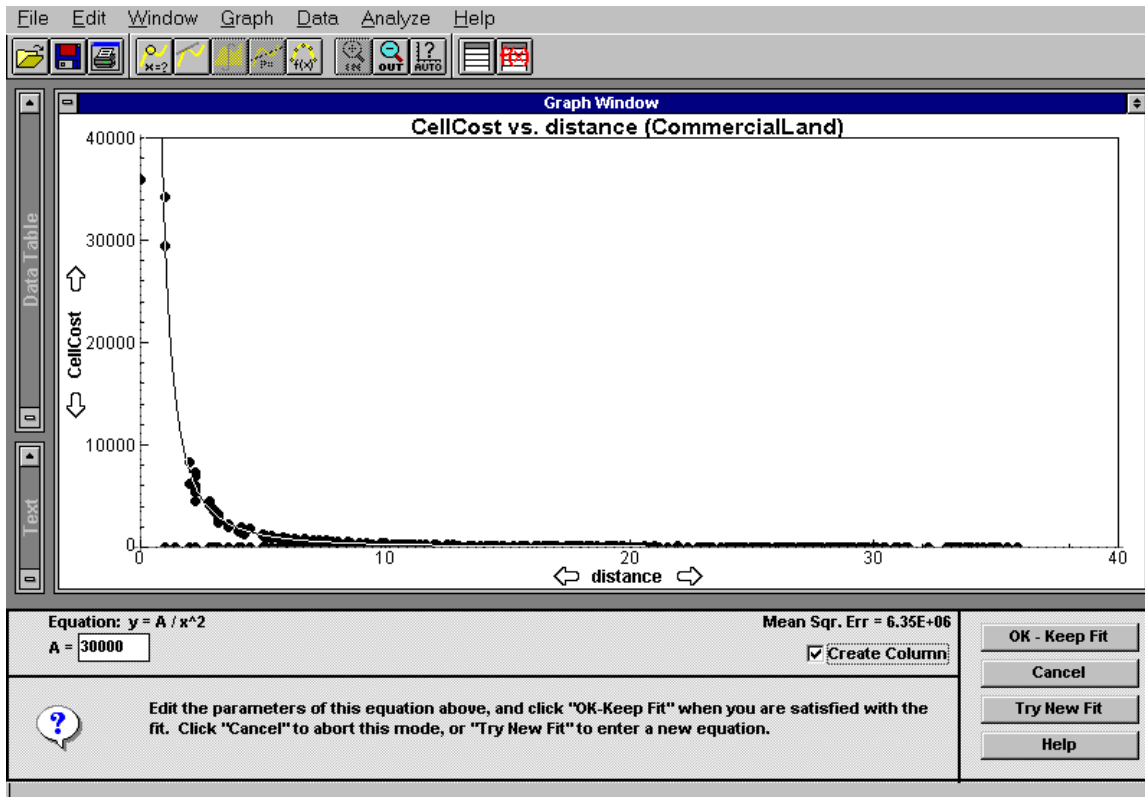

Figure 10: Choosing the Best Fit as 30,000/Distance Squared
- Use Analyze/Curve Fit to find the best formula for these cells. Just as you did in part b, you should vary the formula (e.g. with squares, cubes, and higher powers in the denominator) until your line is as close to the points as possible as suggested in Figure 10. Once you have your best fit, check the box that reads “O.K. - Keep Fit” and also check the box that says “Create Column”.